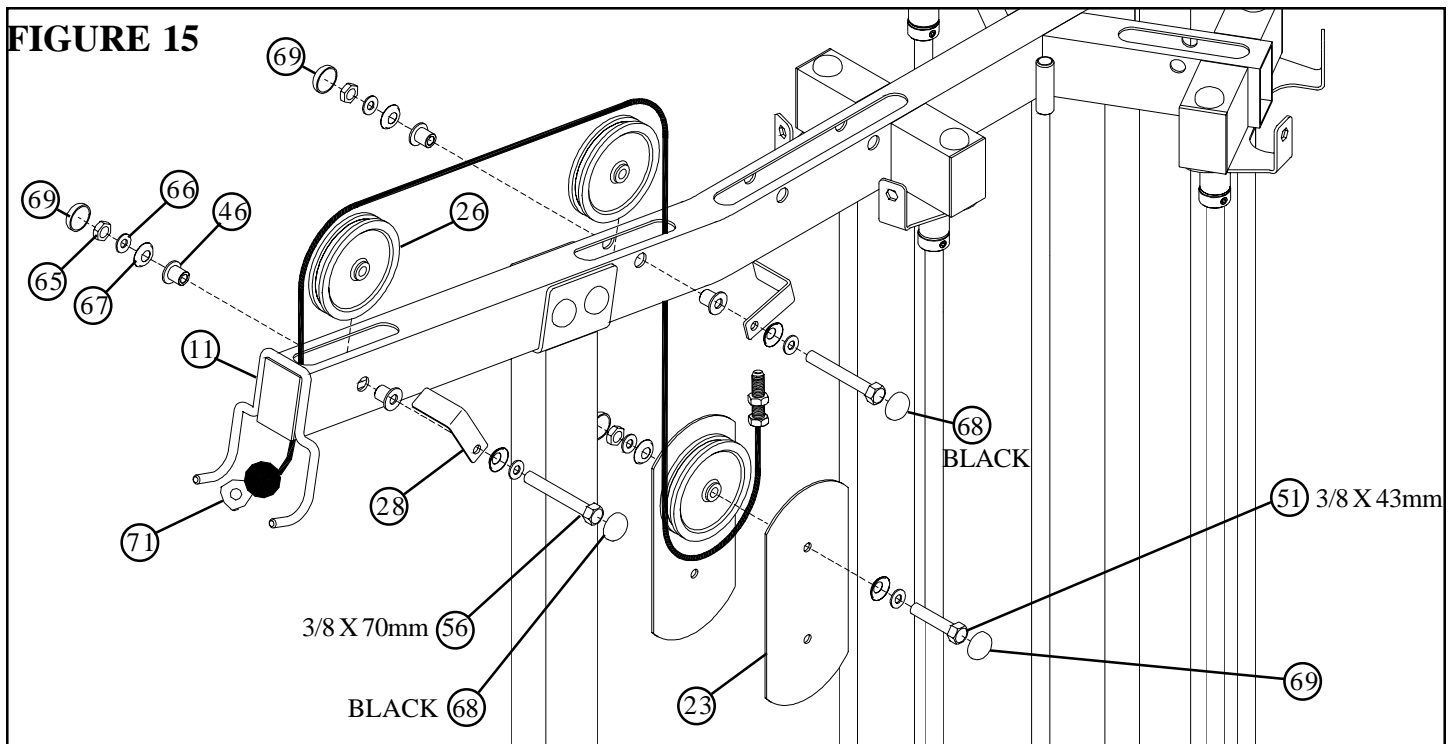

FIGURE 15
- Route the LAT CABLE (71) through the LAT/LOW BOOM (11) and assemble two 4-1/2 PULLEYS (26) to the BOOM (11) using two RH CAPS (69), two BLACK RH CAPS (68), two 3/8 X 70mm BOLTS (56), four 3/8 SAE WASHERS (66), four 3/8 RH WASHERS (67), two 2-7/8 X 2-1/4 CABLE CLIPS (28), four 3/8 X 1/2 FLANGE SPACERS (46) and two 3/8 LOW HEIGHT LOCK NUTS (65) as shown in FIGURE 15.
- Route the LAT CABLE (71) around one 4-1/2 PULLEY (26) and assemble the PULLEY to two DUAL PULLEY PLATES (23) using two RH CAPS (69), one 3/8 X 43mm BOLT (51), two 3/8 SAE WASHERS (66), two 3/8 RH WASHERS (67) and one 3/8 LOW HEIGHT LOCK NUT (65) as shown in FIGURE 15.